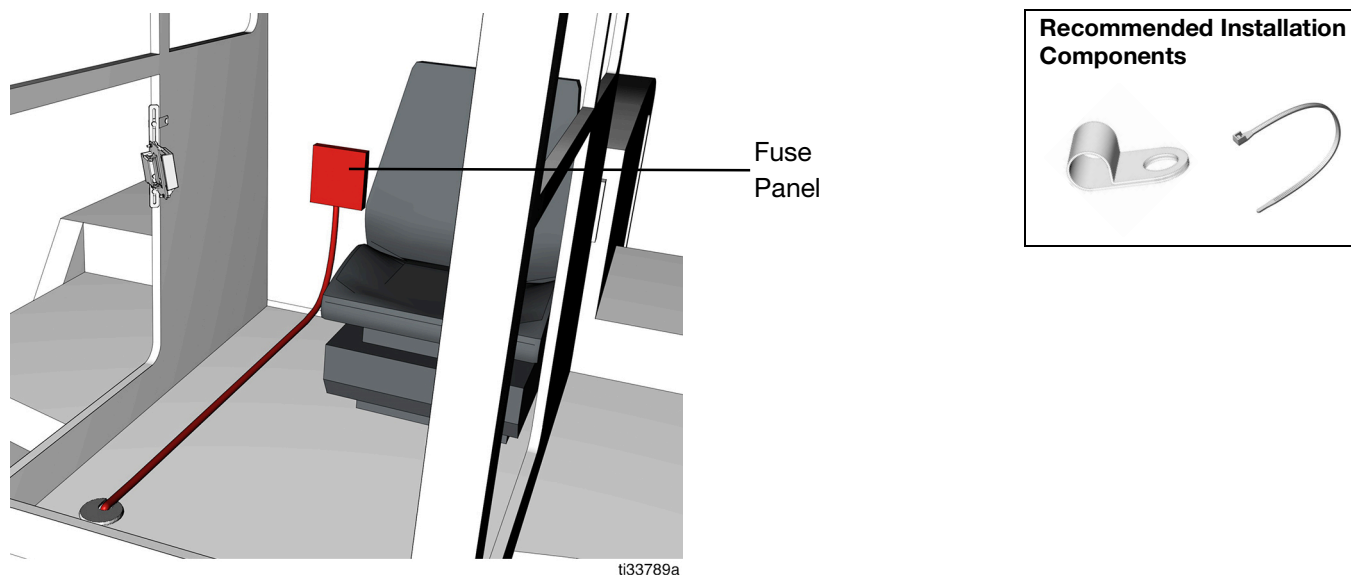

FIG. 15
- If the pump uses a GLC™ 2200 or GLC X controller, route the pump power cable into the cab, toward the fuse panel. See **Wiring Guidelines**, page 16 (FIG. 15).